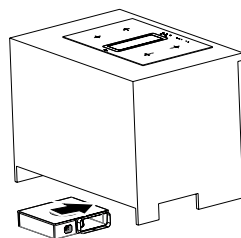

Fig. 21
9. Insert the motor box under the kitchen cupboard (Fig. 21).